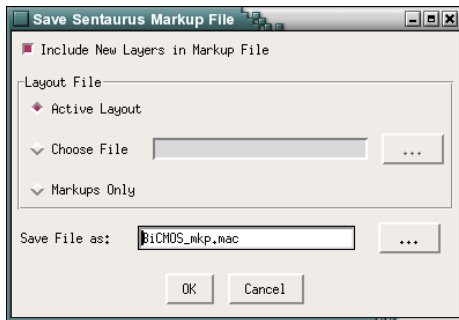

Figure 162 Saving Sentaurus Markup File dialog box
The Save Sentaurus Markup File dialog box is displayed (see Figure 162 on page 807).
3. Select the layout file corresponding to the markup file using one of the three options shown in Figure 162: